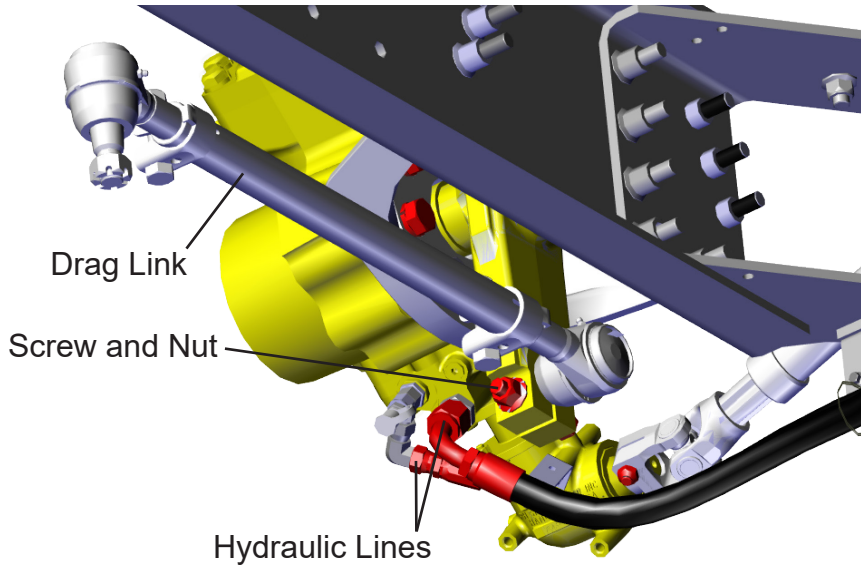

Figure 2
4. Loosen and remove nut and screw securing drag link to pitman arm. See Figure 2.
6. Slightly loosen the two hydraulic lines connected to steering gear to relieve any pressure that may be in the lines. See Figure 2.
7. Loosen and remove two hydraulic lines connected to steering gear. See Figure 2. Cap or seal ends of hydraulic lines to prevent hydraulic system contamination.